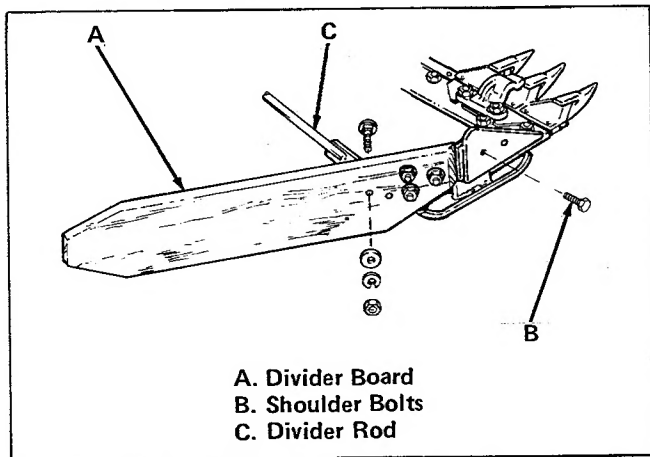

Figure 39. Divider Board Assembly
7. Install divider board (item A, figure 39) using shoulder bolt and locknut (item B). Install divider rod with two bolts, washers and nuts. The sickle bar mower is now ready to be installed on tractor.